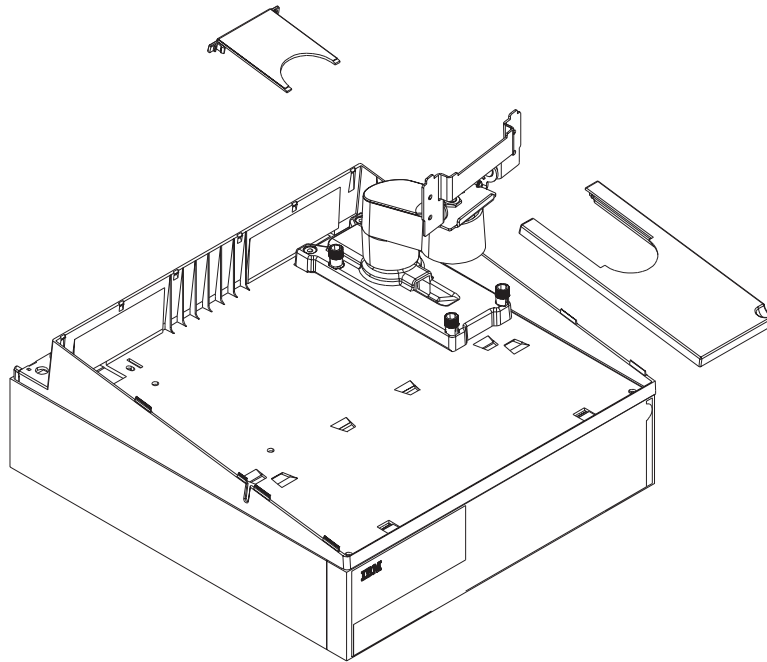

Figure 2-28. Attaching the filler panel covers
5. As shown in Figure 2-28 on page 2-24, place the filler panel covers on the arm assembly.